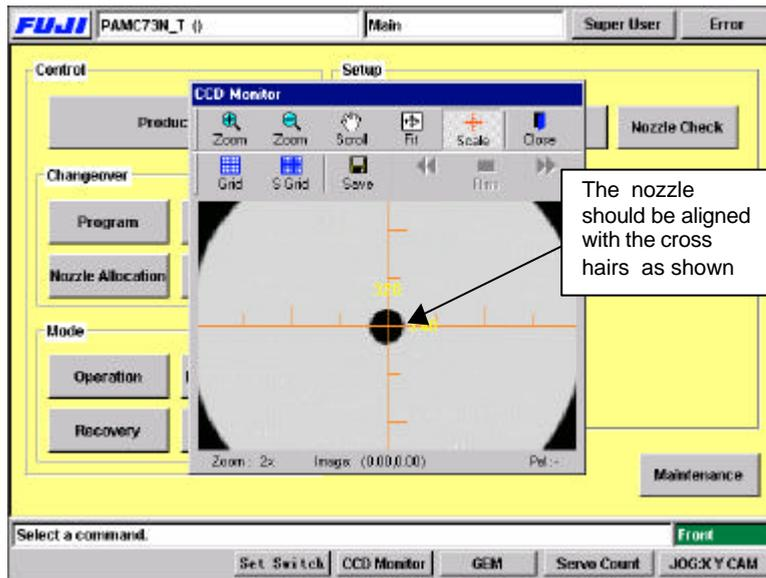

Figure 6
5. To align the Wide Camera nozzle image to the crosshairs in the Y-direction, loosen the four bolts on the underside of the camera assembly and adjust the position of the assembly accordingly (see figure 6). Once the adjustment is complete tighten the bolts with the required amount of torque (13N.m).